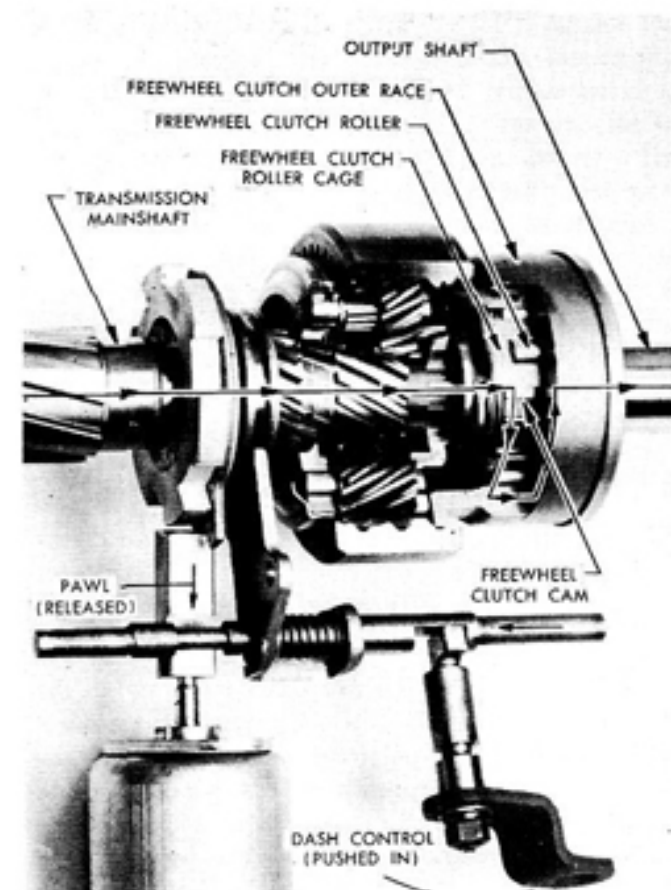

Figure 3.
b. Assuming that the car is being driven with the dash control pushed in (**Fig. 3**), the sun gear control